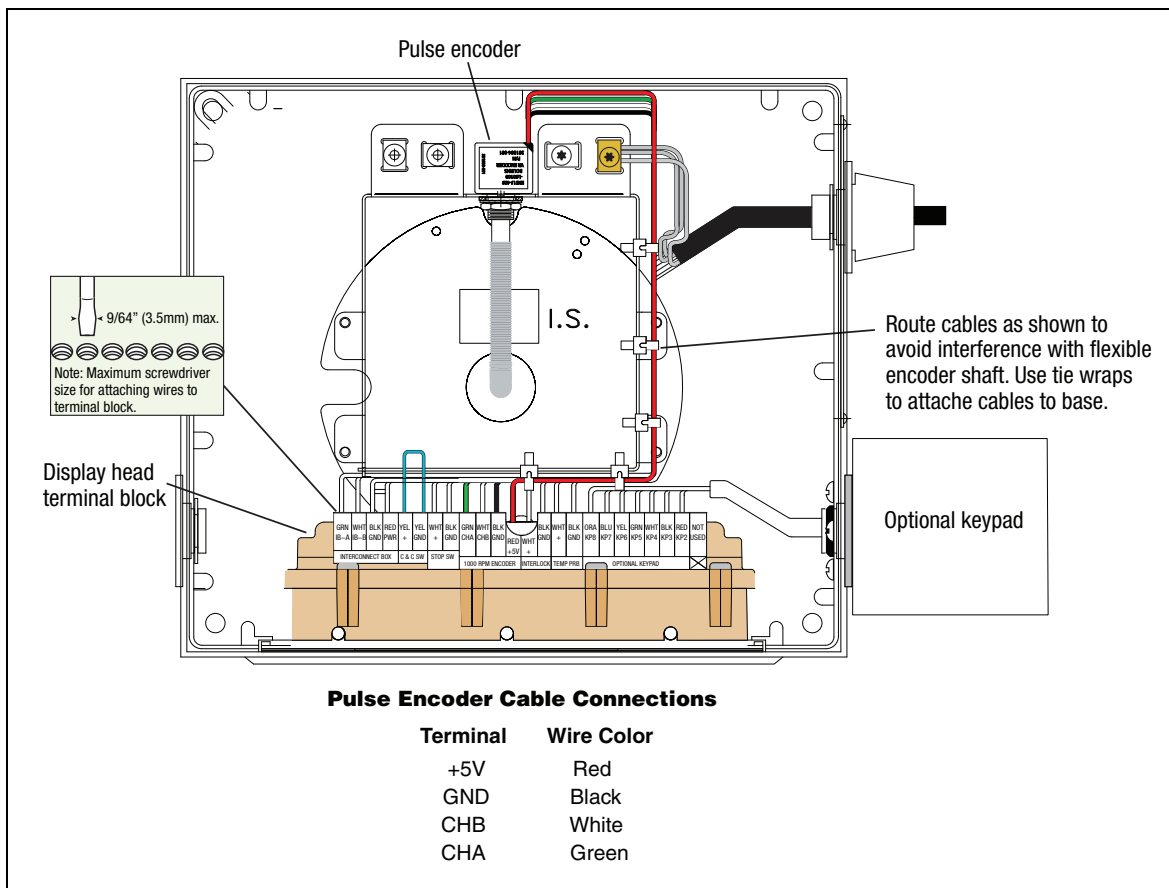

Figure B-5. Connecting Pulse Encoder Wiring To Display Assembly Terminal Block
7. Connect pulse encoder wires to display assembly terminal block as shown in Figure B-5.